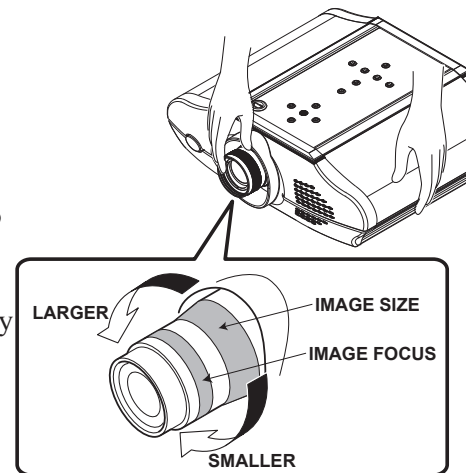

Figure 7
9. Using the Knurled Ring surfaces on the projector lens, adjust the size and focus of the image. Refer to figure 7.
11. Using the Knurled Ring surfaces on the projector lens, adjust the size and focus of the image. Refer to figure 7.
13. Using the knurled ring surfaces on the projector lens adjust the size and focus of the image. Refer to figure 7.